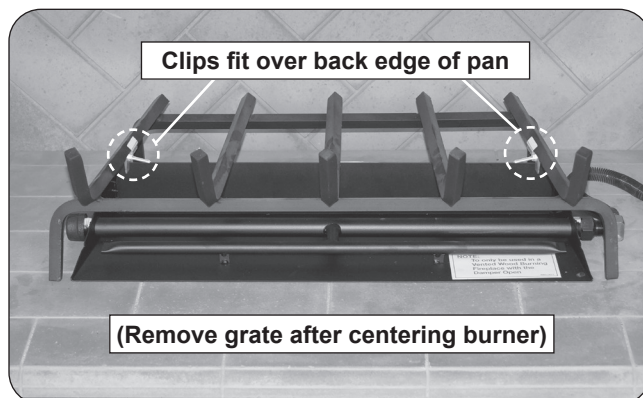

Fig. 11-2 Position grate
2. Position the grate over the burner pan (in fireplace) so the stabilizer clips fit over the back edge of the pan to lock it in position. Ensure the assembly is centered from left to right. See Fig. 11-2 and Fig. 11-3.